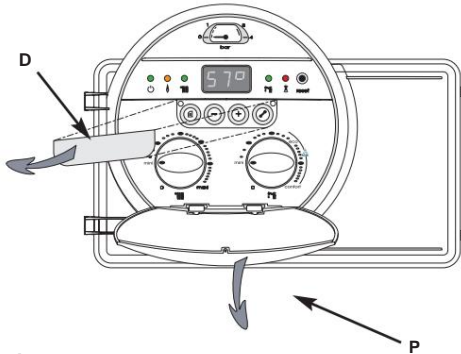

Fig. 14
All settings can be changed by the installer or a qualified professional. The settings and information on the boiler can be accessed by tilting door **P** of the electrical box and removing cover **D** (fig. 14).
- Once the various settings have been completed, replace the cover **D** and close the door **P** (fig.14).